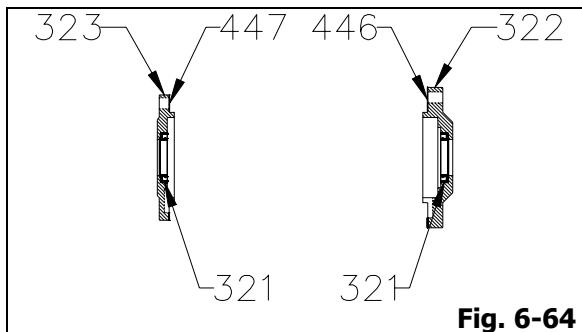

Fig. 6-64
14. Coat oil seal(s) (321) seat surface with oil. Press oil seal(s) (321) into drive end bearing cover (322) (not available for open type impeller) and pump end bearing cover (323) by hand until the shoulder of the seal(s) is fully seated against the cover(s) (Fig. 6-64).